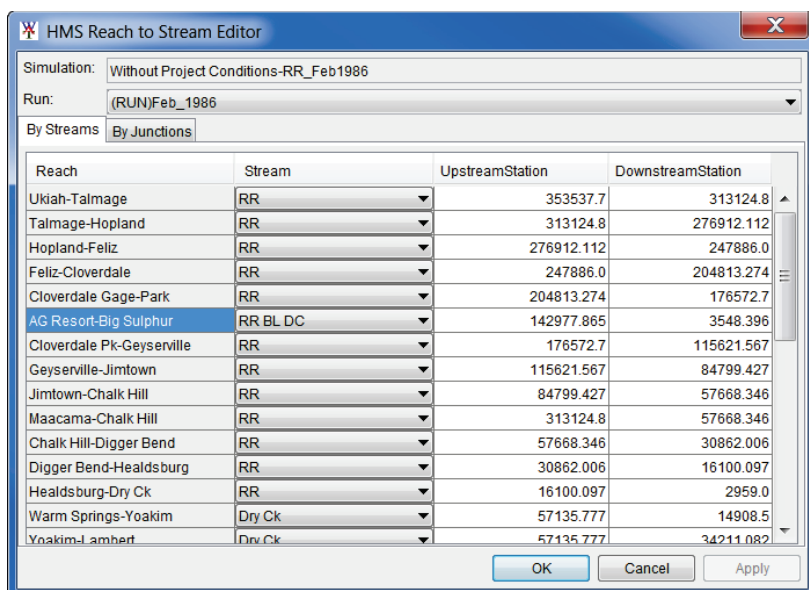

Figure K.17 HMS Reach to Stream Editor – By Streams Tab
- The **HMS Reach to Stream Editor** will open (Figure K.17). This editor is not from HEC-HMS, but from HEC-WAT. Since the current version of HEC-HMS does not recognize the coordinate system that HEC-WAT has for a study, this editor allows the user to enter information that will give the HEC-HMS reach element the correct geographic location on the schematic.
3. An HEC-WAT simulation must be displayed in a map window on the HEC-WAT main window (Figure K.18). The active simulation name is displayed in the **Simulation** box (Figure K.17). For example, in Figure K.17, the HEC-WAT simulation is *Without Project Conditions-RR\_Feb1986*. From the **Maps** tab (similar to Figure K.8), turn off all of the appropriate map layers for the simulation map window. When this is done, the map windows displays (Figure K.18) the HMS graphical elements for the HMS model alternative and the HEC-WAT simulation. The user should review the map windows to see if any HMS reaches are not displaying or are in the wrong location.
- After reviewing the map windows (Figures K.18 and K.19), from the **HMS Reach to Stream Editor** (Figure K.17), from the table for a **Reach** (e.g., *AG Resort-Big Sulphur*), from the **Stream** list (Figure K.17), select the correct stream (e.g., *Big Sulfur Creek*). By viewing the HEC-WAT **Map Window** (Figure K.18), the user can determine the stream name.
8. In the **Station** box (Figure K.21), the stream station for the selected upstream station is displayed (i.e., 80625.84). From the **HMS Reach to Stream Editor** (Figure K.17), from the **UpstreamStation** cell for the selected HMS reach, enter the stream station.
10. From the **Station** box (Figure K.21), the stream station for the selected downstream station is displayed (i.e., 2794.292). From the **HMS Reach to Stream Editor** (Figure K.17), from the **DownstreamStation** cell for the selected HMS reach, enter the stream station.